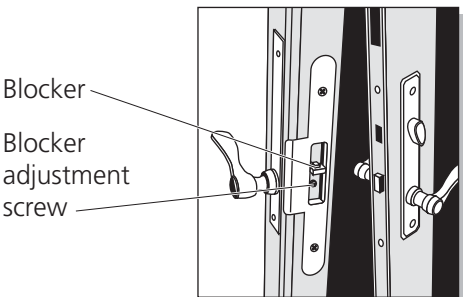

Figure 6 - Interior view
2. Loosen the blocker adjustment screw at bottom of the blocker using a hex wrench. (Fig. 6).